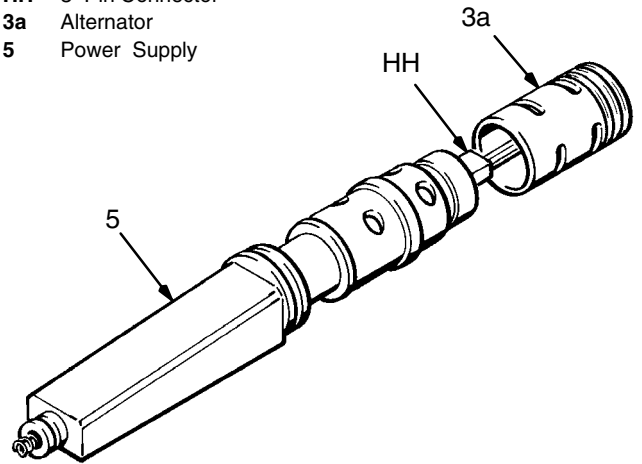

Fig 19
2. Carefully twist the turbine alternator (3a) counter-clockwise and pull it off the power supply (5) until just disengaged from the coupling. Then continue to slowly pull the turbine alternator away from the power supply, disconnecting the 3-pin connector (HH). See Fig 19.
3. Using an ohmmeter, test the coil in the turbine alternator (3a). Measure the resistance between the two outer terminals of the 3-pin connector (HH). The resistance should be 3–5 ohms. If the reading varies from this value, replace the alternator.
4. Measure the resistance between each outer terminal of the 3-pin connector (HH) and the turbine alternator housing. The resistance should be infinite. If the resistance is not infinite, replace the alternator.
5. Partially connect the 3-pin connector (HH) onto the prongs inside the power supply (5). See Fig 19. Using a small screwdriver, push the connector onto the prongs until seated.